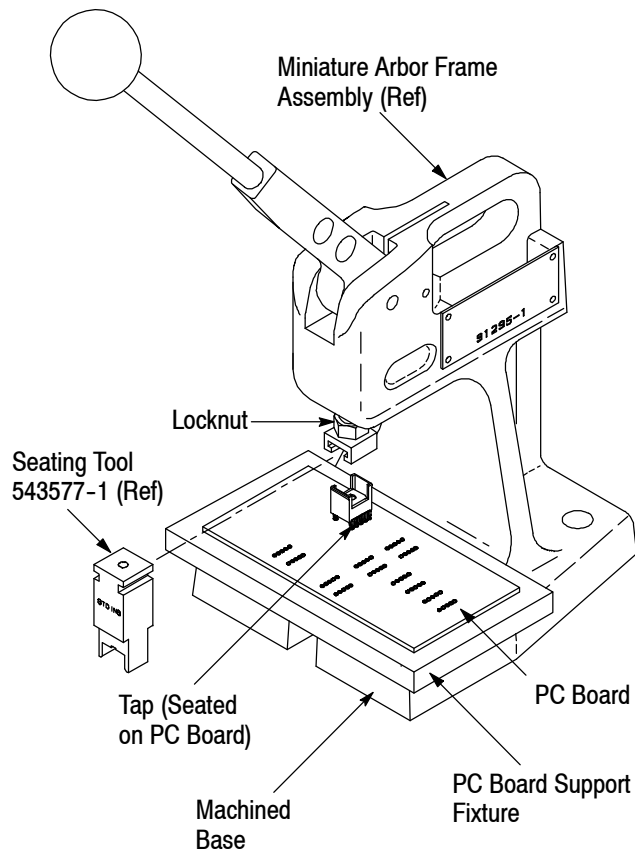

Figure 2
2. Align the grooves in the seating tool with the arbor frame ram tooling adapter, as shown in Figure 2, and slide the seating tool onto the adapter.
2. Re-position the pc board support fixture so that the partially inserted tap is centered under the seating tool. Refer to Figure 2.
*If the tap inspection does not meet the requirements or if the arbor frame ratchet does not release after the tap is fully seated, it may be necessary to adjust the shut height of the ram. To adjust the shut height, loosen the locknut (located above the ram tooling adapter, shown in Figure 2) and rotate the adapter clockwise to decrease the shut height or counterclockwise to increase the shut height. Tighten the locknut to secure the adjustment.*